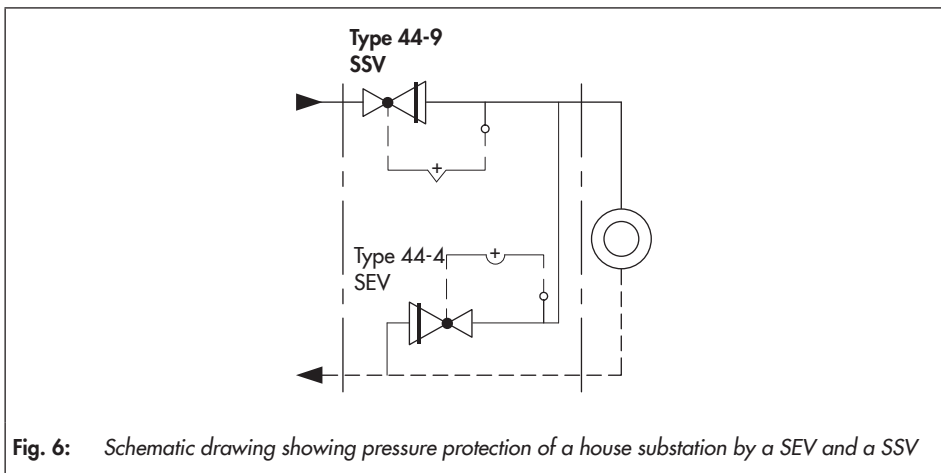

Fig. 6: Schematic drawing showing pressure protection of a house substation by a SEV and a SSV
- See schematic drawings of typical installations (Fig. 5 and Fig. 6).